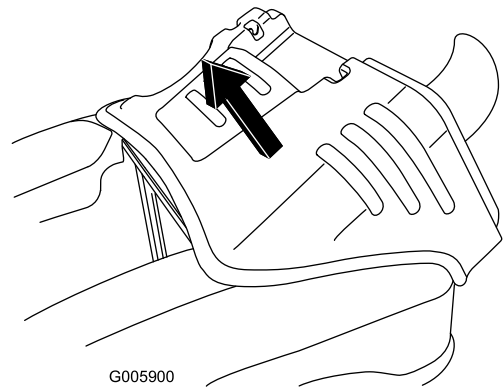

Figure 26
6. Grasp the engine hood front and rear and lift the engine hood off the frame (Figure 26).